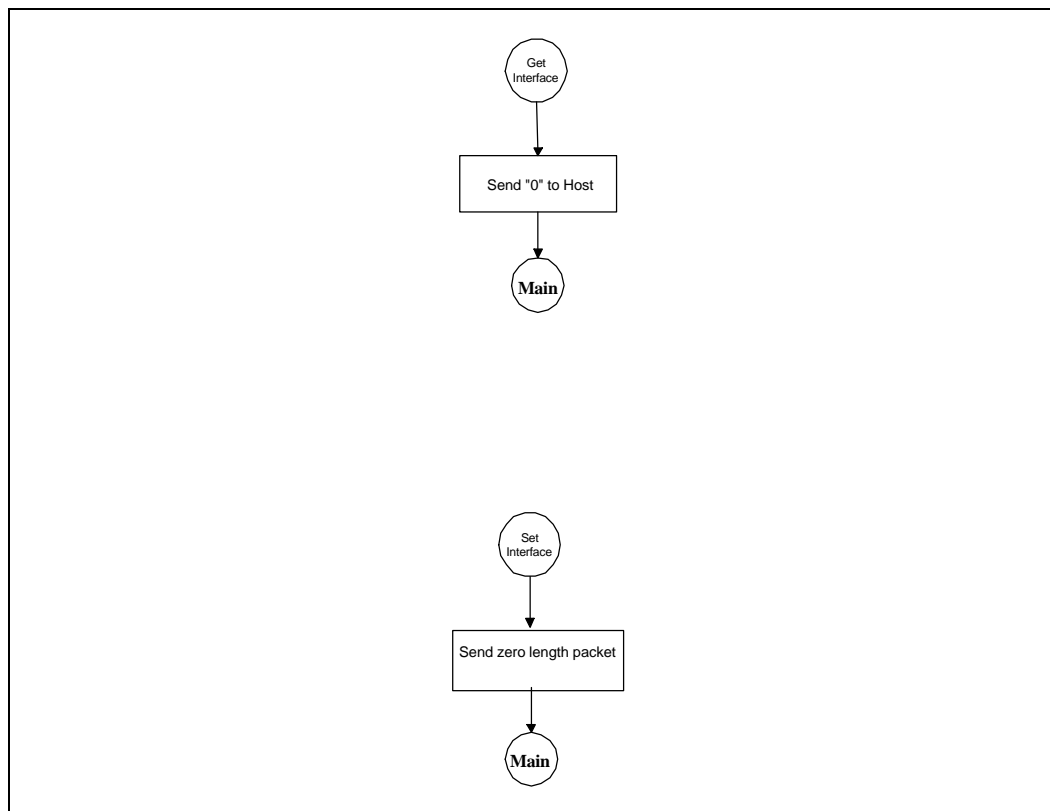

Figure 15: Hub Get & Set Interface Standard Commands
- Get Interface (Figure 15)
- Set Interface (Figure 15)